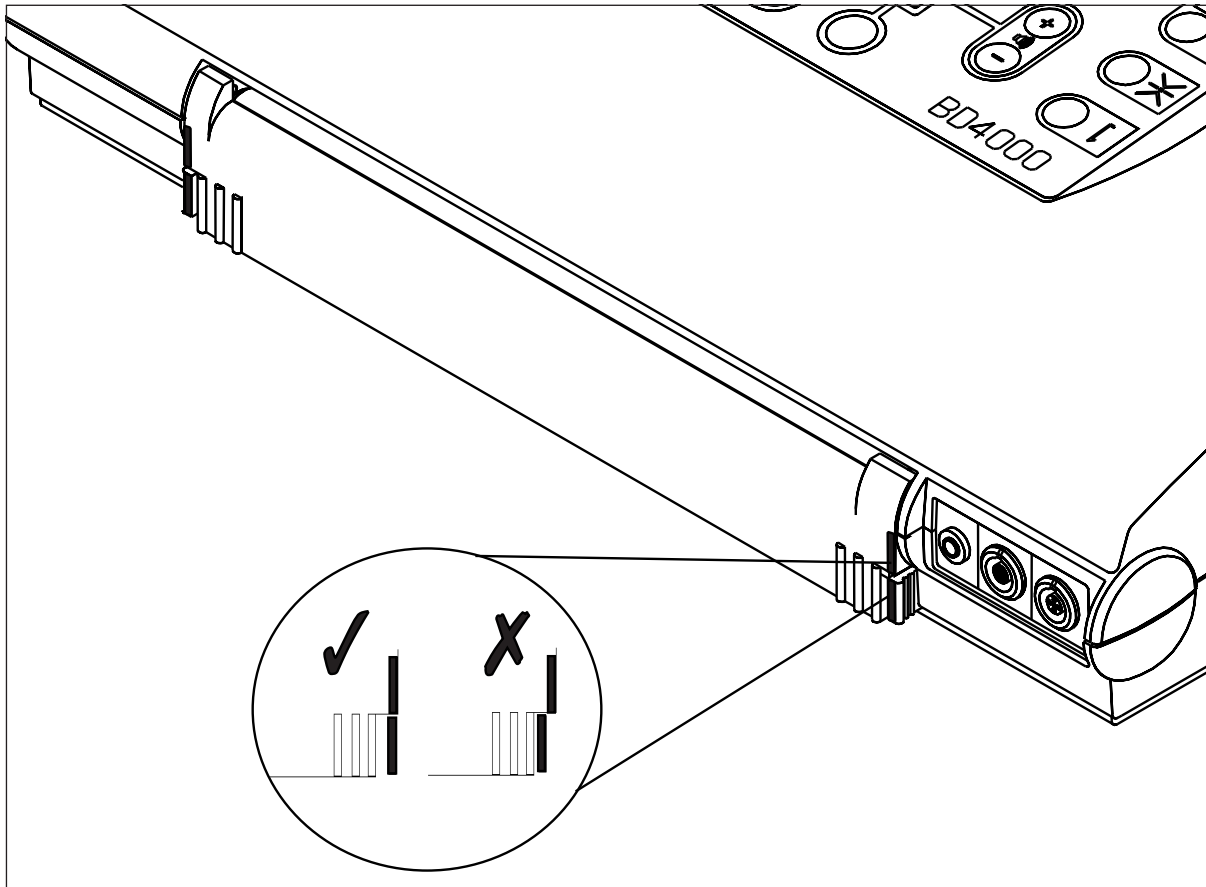

Figure 5 Paper Tray Firmly Shut
*Ensure that the latches at both ends are securely locked. (See Fig. 5). If the tray is not properly latched shut at both ends, the unit may not print, or poor print quality may be observed.*